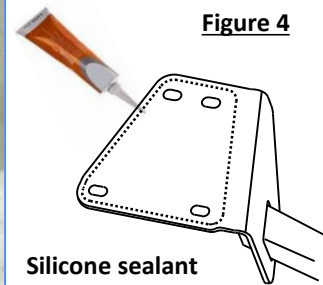

Figure 4
- 5. Install hitch** - apply silicone sealant to the hitch bracket mounting surfaces to prevent intrusion of water and exhaust fumes. **See figure 4.** Raise hitch and bumper beam into position aligning holes with weldnuts in the end panel. Sandwich the hitch between the bumper beam and end panel.
- 6. Install fasteners** – using a 13mm socket, install (8) M8 hex bolts, helical lock washers, and flat washers provided with hitch into weldnuts in end panel, (4) per side.
- 9. Reinstall wheel well trim and underbody panels** – reinstall (2) underbody panels using the original fasteners noted in step 1.
5. **Install hitch** - apply silicone sealant to the hitch bracket mounting surfaces to prevent intrusion of water and exhaust fumes. **See figure 4.** Raise hitch and bumper beam into position aligning holes with weldnuts in the end panel. Sandwich the hitch between the bumper beam and end panel.
6. **Install fasteners** – using a 13mm socket, install (8) M8 hex bolts, helical lock washers, and flat washers provided with hitch into weldnuts in end panel, (4) per side.